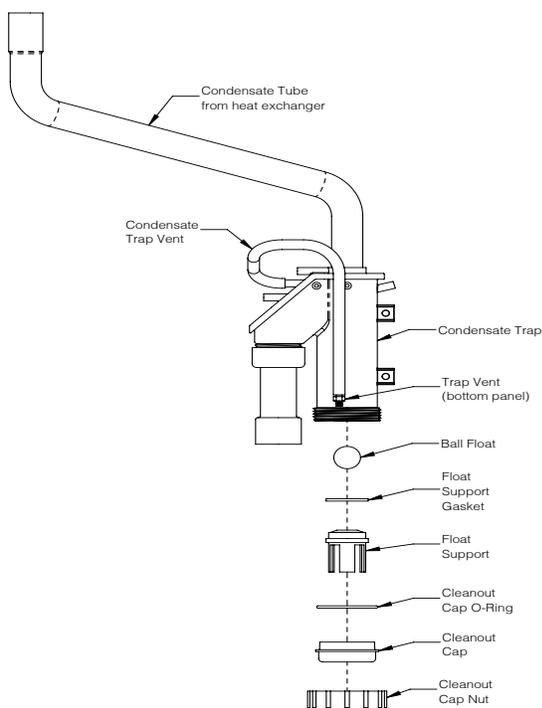

Figure 17-5: Condensate Trap Exploded Parts View
- A. Place bucket under condensate clean out cap on bottom of boiler (Figure 17-5) to catch water in trap as well as ball and support.
- C. Flush any debris found in trap with water - do not use other cleaning agents. Reassemble trap as shown in Figure 17-5.